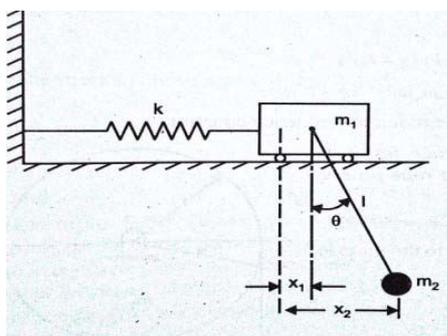

Figure 4
- a. Determine the frequency equation for the system shown in figure 4, where x_1 is block displacement and x_2 bob displacement